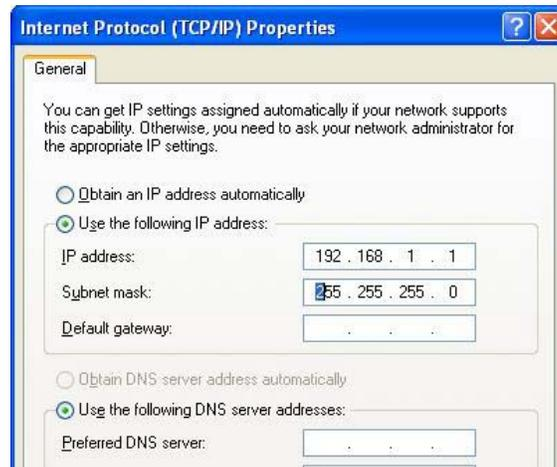

Figure 22
7. In the *Internet Protocol (TCP/IP) Properties*, select the **Use the following IP address** radio button. See figure 22